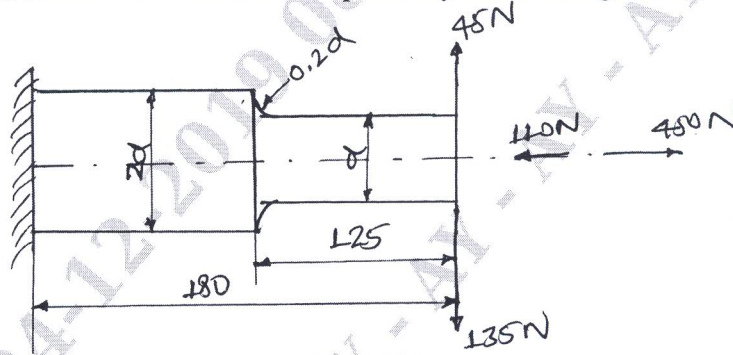

Fig.Q4(b)
- b. A steel cantilever member as shown in Fig.Q4(b) is subjected to a transverse load at its end that varies from 45 N up to 135 N down and axial load varies from 110 N in compression to 450 N in tension. Determine the required diameter at the change of section for infinite life using FOS = 2. The strength properties of material are $\sigma_u = 550$ MPa, $\sigma_y = 470$ MPa, $\sigma_{eu} = 275$ MPa. The test data indicated that theoretical stress concentration factor for bending and axial load are 1.44 and 1.63 respectively at the change of c/s.